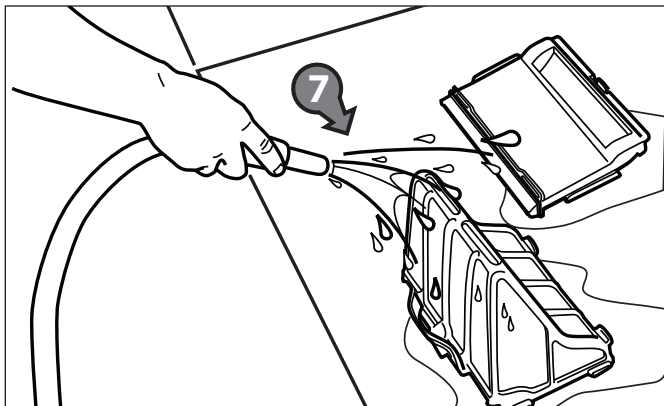

Figure 24. Wash Filter Canister
9. Wash the filter canister, the filter support, and the cleaner under water or using a hose (7). Refer to Figure 24.